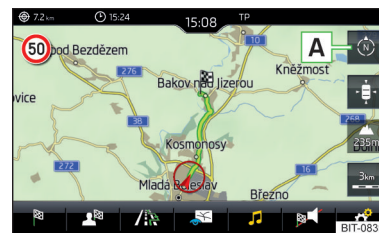

Fig. 197 Changing the map orientation
- ▶ To **change the map orientation**, go to the main *Navigation* menu and tap on function surface  **A** » Fig. 197.